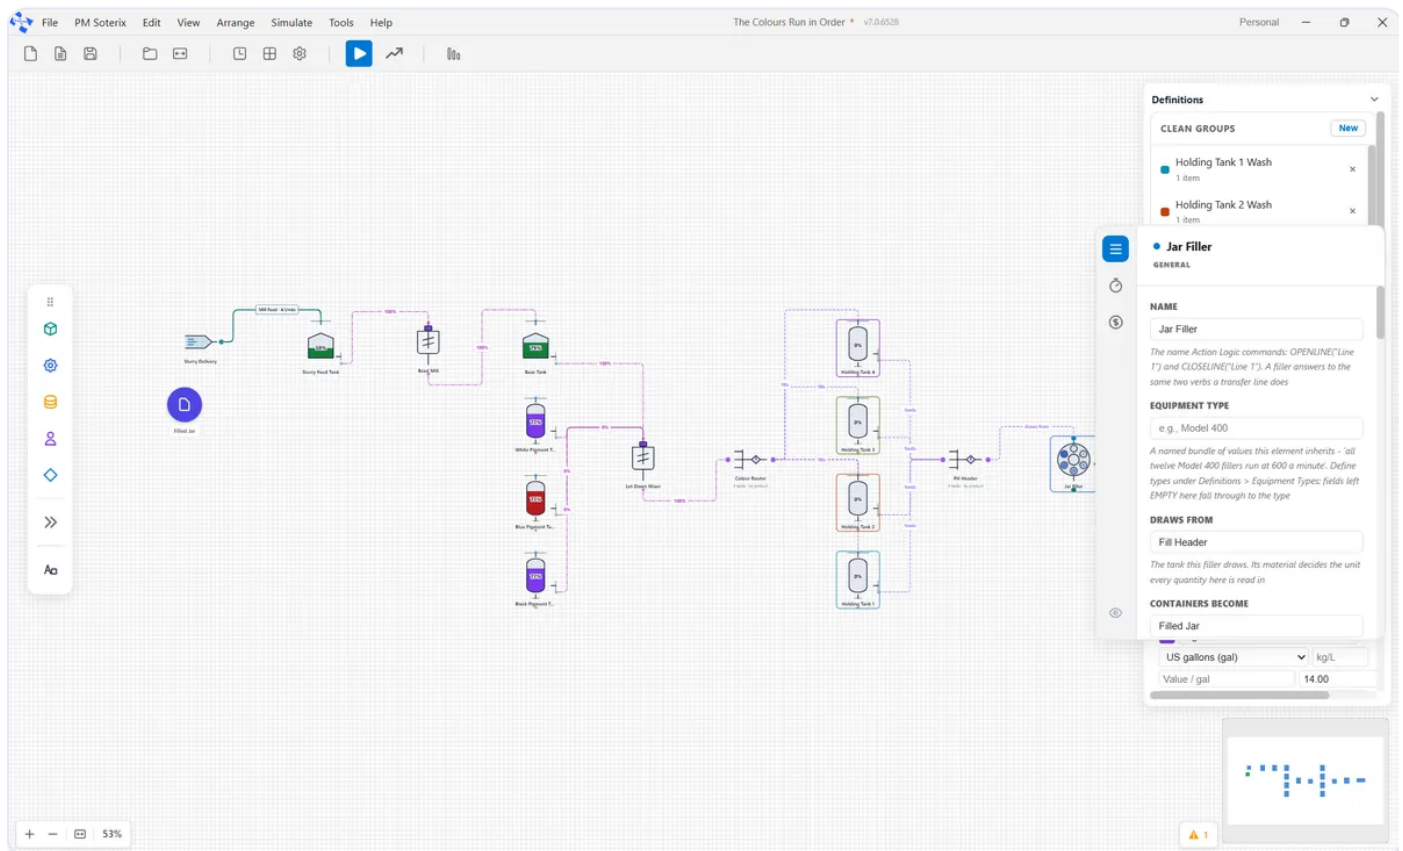

Figure 19. A Filler's settings, from this model.
- Figure 19. A Filler's settings, from this model.